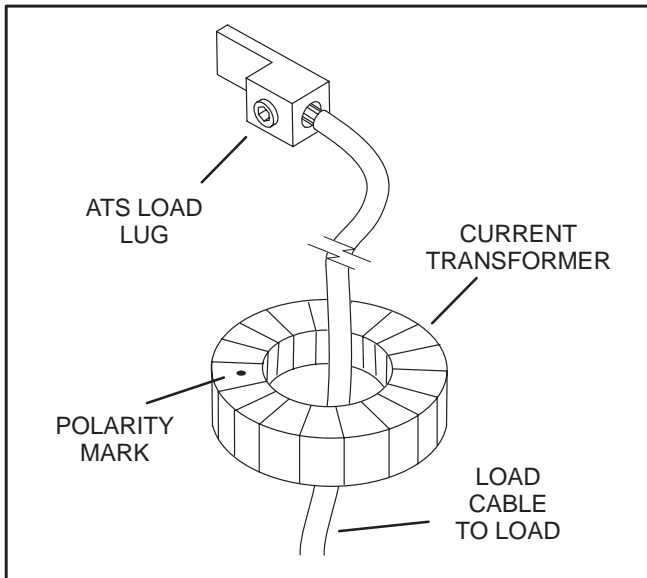

FIGURE 3-1. CURRENT TRANSFORMER WIRING
On transfer switches with a bar graph display, in order to measure the current, the load cables must each pass through a current transformer (Figure 3-1). Transfer switches are shipped with current transformer (CT) wires (white wire = X1, black wire = X2) connected to the terminal block (TB4) with the polarity mark facing the transfer switch. When wiring the power cables to the transfer switch, be sure the cables pass thru the CTs, and make sure all CTs are facing the same direction with the polarity marks facing the transfer switch.